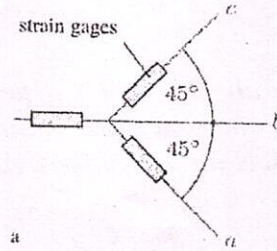

Figure 3
**Q.4** By using a strain gage rosette, the strains  $\epsilon_a = 1200\mu$ ,  $\epsilon_b = 200\mu$ , and  $\epsilon_c = -200\mu$  have been measured in a steel sheet in the directions  $a$ ,  $b$ , and  $c$ , as shown in Figure 3. Calculate the principal strains, principal stresses, and principal directions. Use  $E = 210$  GPa and  $\nu = 0.3$ .